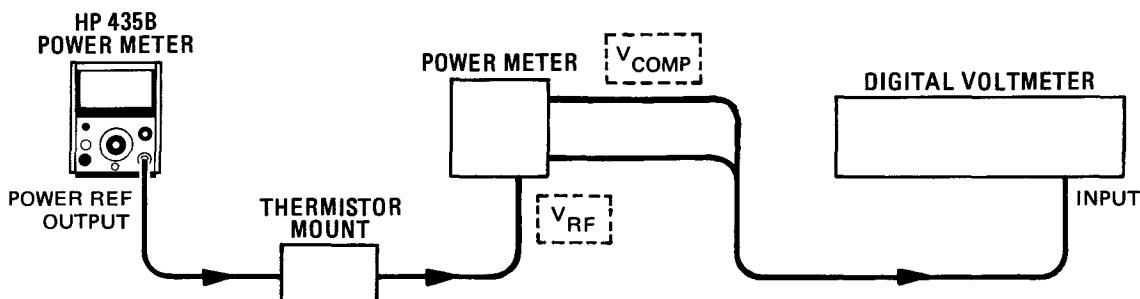

Figure 4-1. Power Reference Level Test Setup
2. Round off the DVM indication to two decimal places and record this value as the internal bridge resistance (R) of the 432A (approximately 200 ohms).
3. Connect 432A to the Power Meter as shown in Figure 4-1.